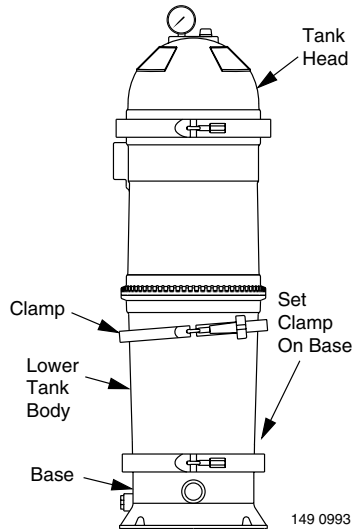

FIGURE 6A – PTM135
6. Remove clamp fastener from clamp indicated in Figures 6A and 6B.
7. Loosen indicated clamp (see Figure 6); remove clamp by lifting it straight up over tank or dropping it onto filter base. (see Figures 6A, 6B, 7A, and 7B, Pages 8 and 9).